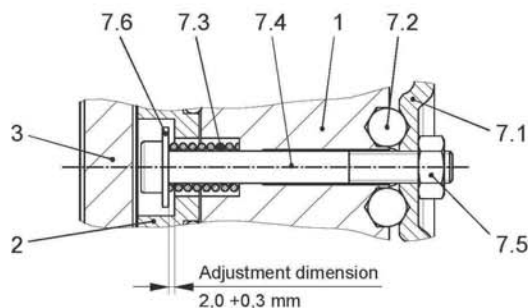

Fig. 6
By lifting the hand release levers (7.1) up from the steel balls (7.2), both cap screws (7.4) incl. washers (7.6) together with the armature disk (2) are pulled against the coil carrier (1) (Fig. 6). The rotor (3) is then free, thus releasing the brake.